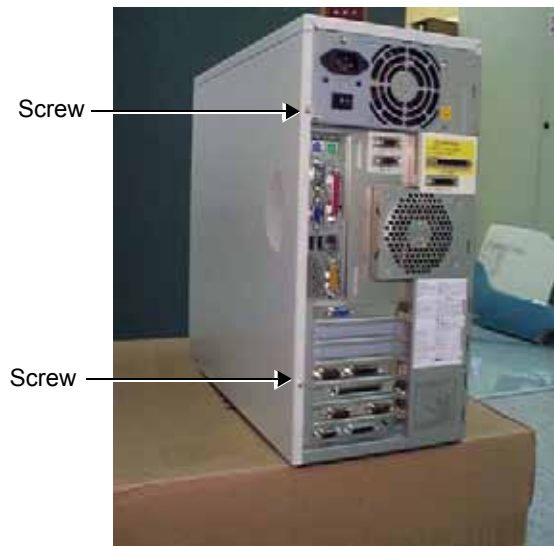

Figure 8-59 Side Cover - BEP2
- 1) Remove the two screws (that secure the side cover in position) from the rear of the BEP (see Figure 8-59 below).
- 2) Replace and tighten the two screws to hold the cover firmly in position (Figure 8-59 on page 8-66).